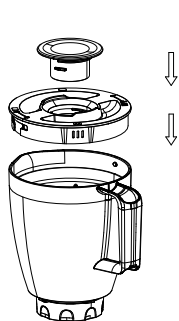

Fig 1
1. Mount the Measuring cup (8) onto the Plastic jug lid (9) and turn it tight. Secure the Lid onto the Blender jug and press down (Fig 1), See also chapter 'Fitting/Removing the Lid'.